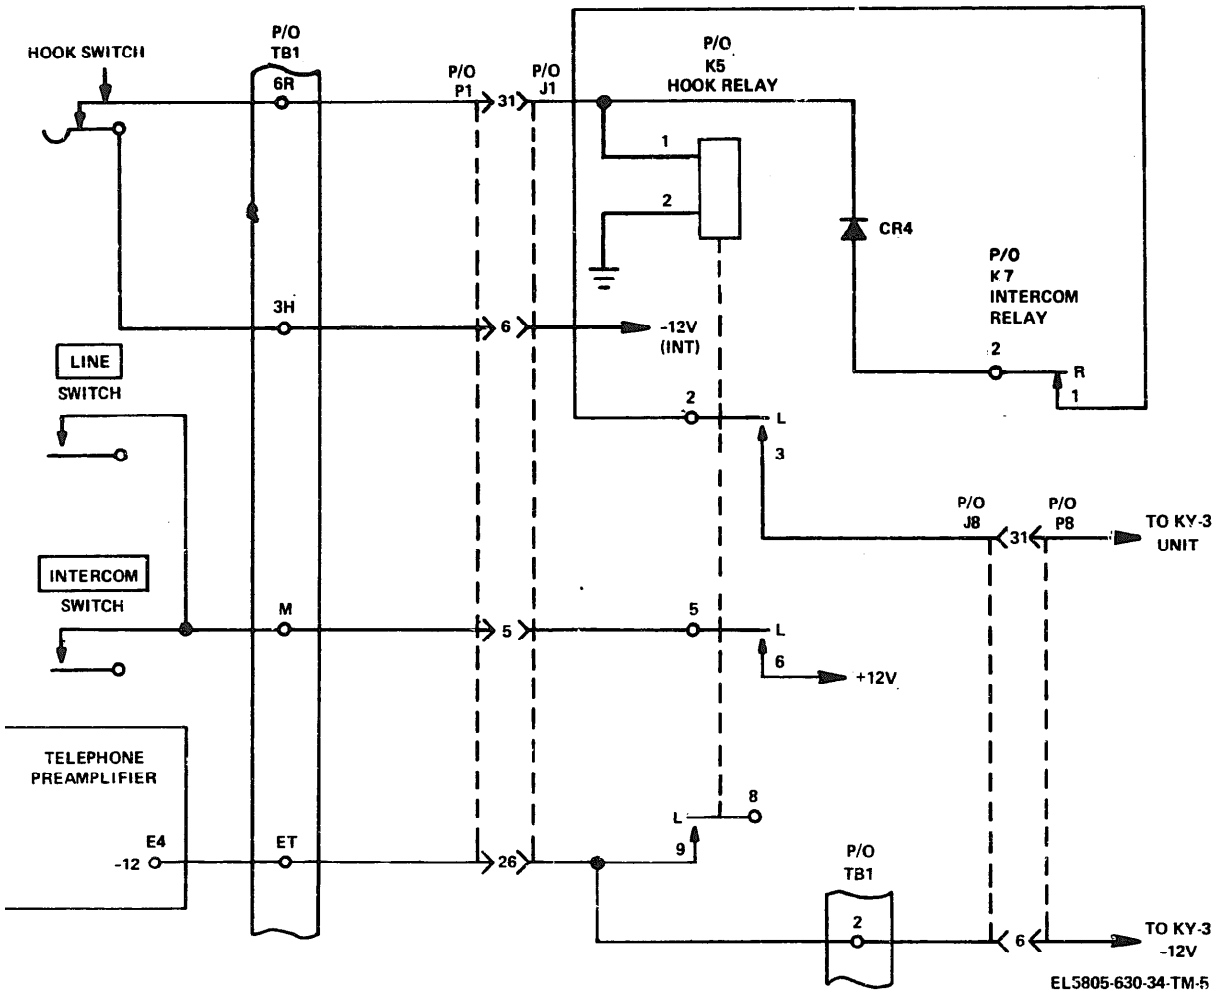

Figure 2-5. Simplified schematic diagram, extension telephone hook relay.
a. Hook Relay K5 (fig. 2-5). Hook relay K5 of the extension phone controls three functions; plus 12 volts, minus 12 volts and operation of the ON-hook and Delay relays in the KY-3 unit. The relay is controlled by a hook switch in the phone and is operated when the handset is lifted from its cradle.
(1) Hook relay K5 operating circuit is from minus 12V to P1-6 through the hook switch to P1-31 and J1-31, through relay K5 winding to ground.
(2) The circuit for operation of the delay and on-hook relays in the KY-3 unit receives minus 12 volts from P1-31 and J1-31 through diode CR4 and relay contacts R1 and R2 on intercom relay K7, through contacts L2 and L3 on the hook relay and then to the KY-3 unit through J8-31 and P8-31.
(3) The plus 12 volts is fed through K5 relay contacts L5 and L6, pin J1-5 and P1-5 to terminal board TB1-M where it is applied to the LINE and INTERCOM switches.
(4) The minus 12 volts supplied by the KY-3 unit is fed to hook relay contact L9 through J1-26 and P1-26, to terminal E4 on the telephone preamplifier unit.